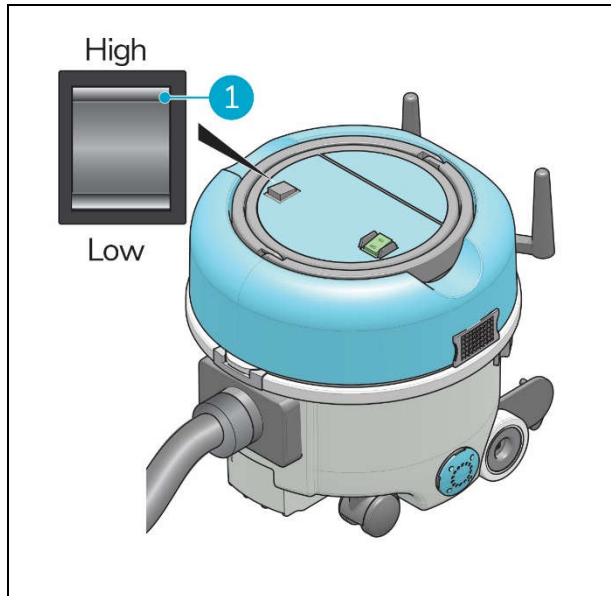

Figure 19
Press the high/low switch to adjust the speed of the suction motor (fig 19, pos 1).